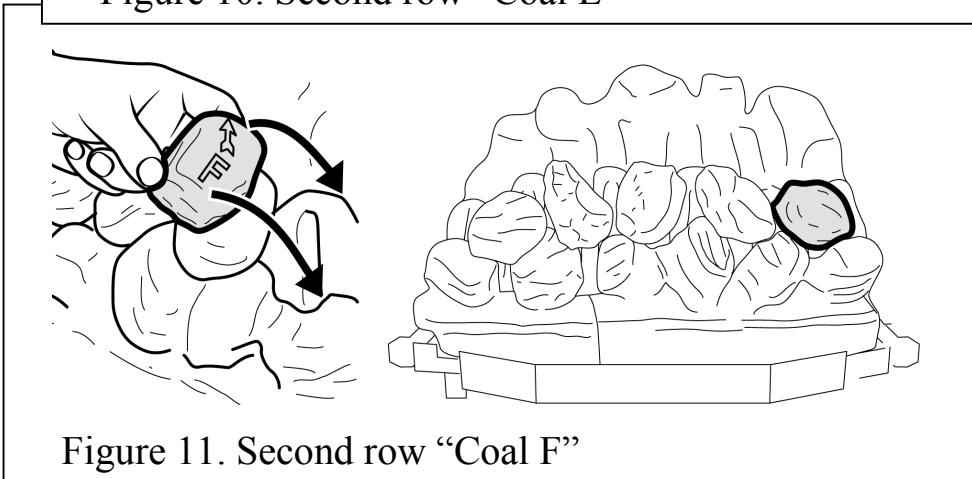

Figure 11. Second row "Coal F"
13. Hold coal 'F' upright with the arrow pointing to the top. Locate coal 'F' as shown in figure 11.